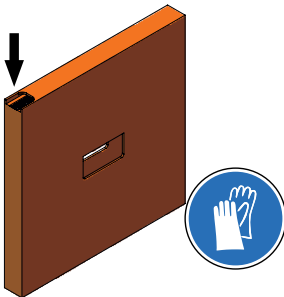

Figure 22: Code tape box: Open here
1. Open the code tape box at the latch (Figure 22).